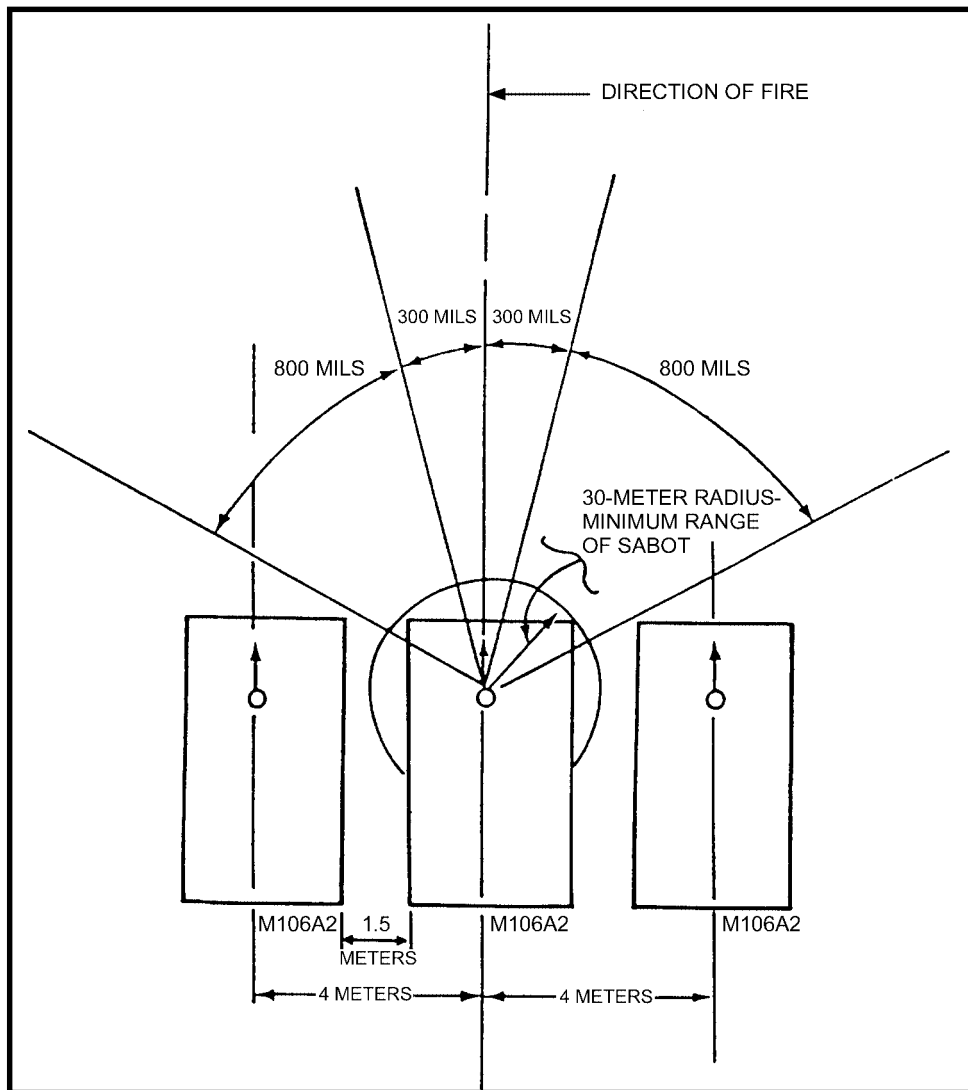

Figure A-18. Large deflection changes.
(1) Sometimes it is desirable for gunners to observe the impact of the sabot. However, mortars are usually mounted in a defilade position so that a mask exists between the impact area and the firing position. If such a mask does not exist, one can be constructed of target cloth or other suitable material. The mask must be removed when firing direct lay missions.
(2) A heavy canvas or other suitable material should be placed on the ground to a distance of 15 meters in front of each mortar to catch the sabot. On a permanent sabot range, it is desirable to construct a permanent impact area for the sabot—a sawdust or sandpit covered with heavy canvas would be ideal.
(3) When positioning the mortars, the lateral distance between the center of the baseplates should not exceed 4 meters. Special corrections can be applied to fire for effect if the weapons are more than 4 meters apart, but it is unrealistic to habitually apply special corrections during training.
(4) When using the sabot with each of the weapons separated by 3.5 to 4 meters, some special techniques must be used. Aiming posts should be identified by squad to preclude a mix-up of aiming posts between two mortars. Numbers, colors, or any other easily discernible method can be used.
(5) Problems can be encountered when traversing carrier-mounted mortars during large deflection changes of more than 300 mils left or right of direction of fire (Figure A-18, page A-20). The carriers should be traversed to avoid the possibility of hitting adjacent carriers with the sabot. Due to the minimum range of the sabot, it must be fired only over the rear of the carrier with the ramp in the up position.